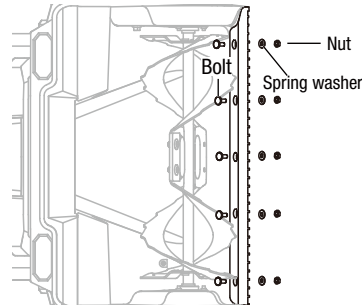

Fig. 13
1. The scraper bar is located at the bottom of the snow blower housing. In the process of snow blowing, the bar may touch the ground or stone directly, resulting in wear. Remove the battery and turn the snow blower on its side to work on the tool. (Fig. 13)
2. Use a Hex wrench to remove the 5 nuts and washers under the bottom of the housing. Remove the worn scraper bar from the snow blower. (Fig. 13)